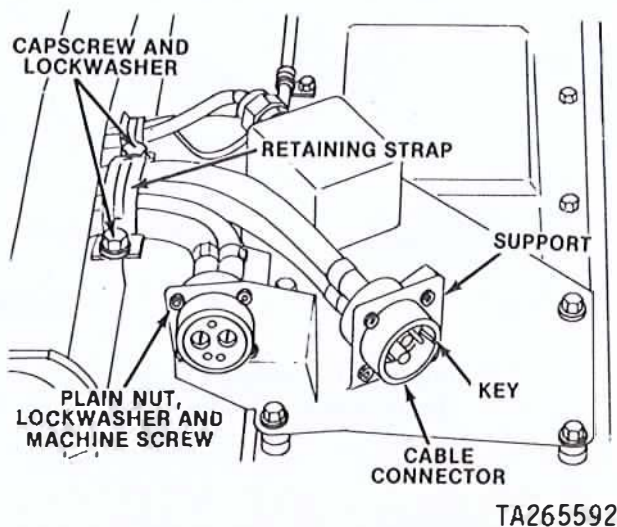

Figure 4-12. Removing or Installing Starter, Smoke, and Dust Detector Electrical Cable Connector
(7) Install retaining strap (fig. 4-12) and secure with two capscrews and lockwashers. Install cable connector through support with connector key at the 3 o'clock position. Secure connector with four plain nuts, lockwashers, and machine screws.